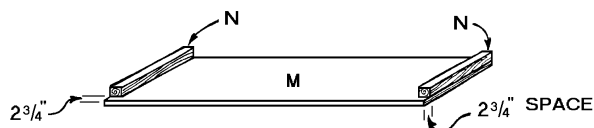

Figure 8
2. Cut two Side Housing pieces (M) from 3/4-inch-thick plywood each 21 x 37-1/2 inches.
3. Cut four Corner Supports (N) from 2 x 2 pine, each 18-1/4 inches long.
4. Glue and screw two of the four Corner Supports (N) to the 21-
inch edges of a Side Housing piece (M). Use 2"-long screws spaced about 6 inches apart. As shown in Figure 8, make sure that the Corner Supports (N) are flush with the back of the drawer housing, and 2-3/4-inches short of the front of the housing. This 2-3/4" spacing is necessary to accommodate the rails and stiles, which will be added later, and to allow space for the drawer fronts and drawer pulls when the armoire doors are closed over the drawer housing.
5. Glue and screw the remaining two Corner Supports (N) to the remaining Side Housing piece (M) just as you did in Step 4.